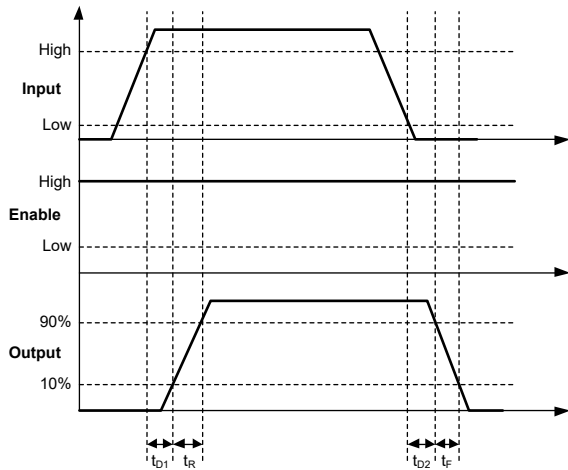

Figure 2. Non-Inverting Input Driver Operation
1. See timing diagrams in Figure 2 and Figure 3.